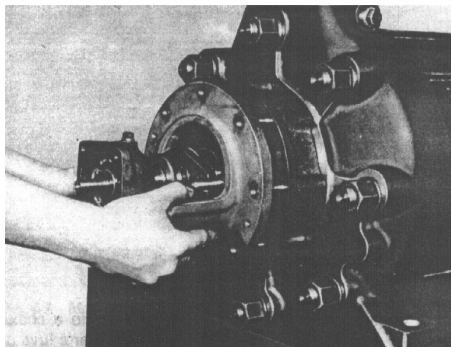

Fig. 6
- Extract the Bearing Block, by hand. (See fig. 6)